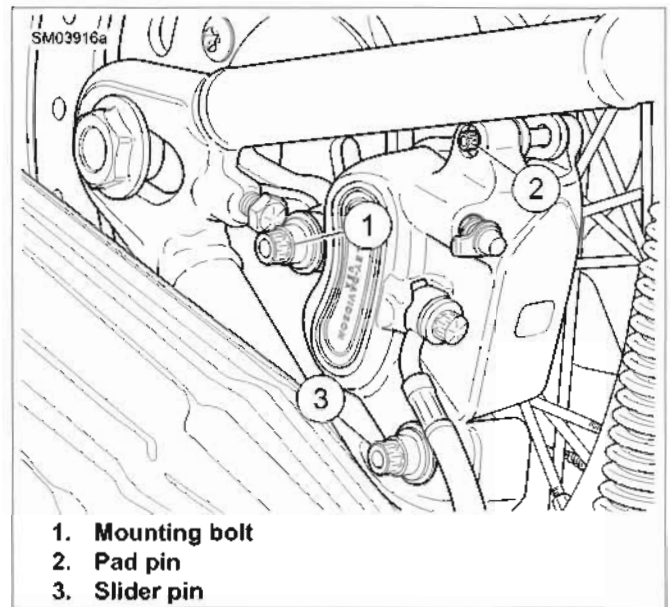

Figure 1-32. Rear Brake Caliper
3. See Figure 1-32. Loosen, but do not remove pad pin (2).
4. Remove mounting bolt (1) and slider pin (3). Pull rear caliper away from brake disc.
5. Remove pad pin (2) and pads.
12. See Figure 1-32. Install caliper. Tighten mounting bolt (1) and slider pin (3) to 16-20 **ft-lbs** (21.7-27.1 Nm).